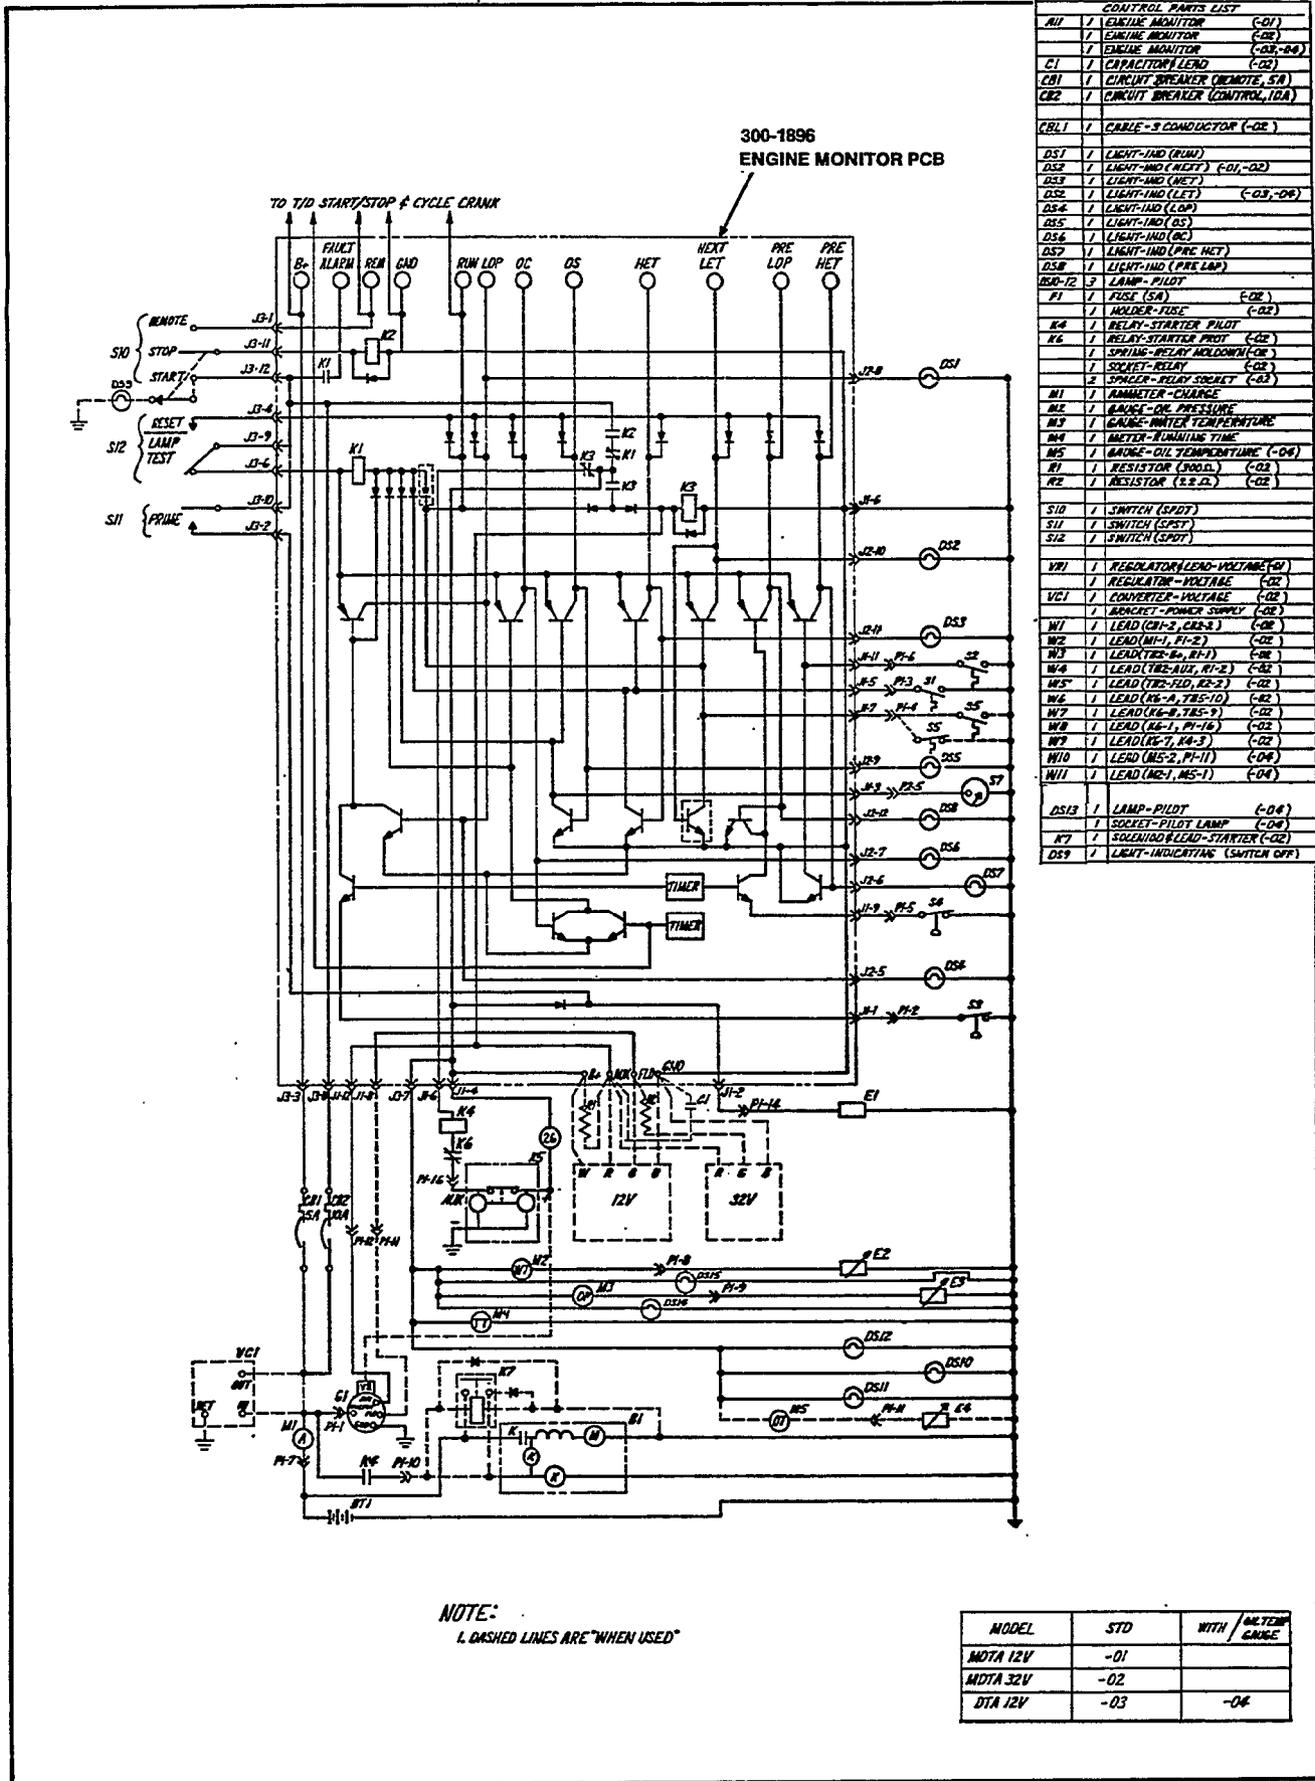

FIGURE 76. DC CONTROL SCHEMATIC DTA/MDTA (OPTIONAL METERING)
Figures 76 and 77 show the PC board and DC control schematics for the solid state control. Relay contact text references normally open (NO) and normally closed (NC) refer to position of contacts with the unit at rest (not energized).
Refer to Control Operation and the schematic in Figure 76 when troubleshooting this control. Repair information is not extensive since the solid-state printed circuit board lends itself more to replacement than repair. External components such as leads, switches, indicator lights, relays, gauge senders, circuit breakers, DC voltage regulator, etc., plug into the board.